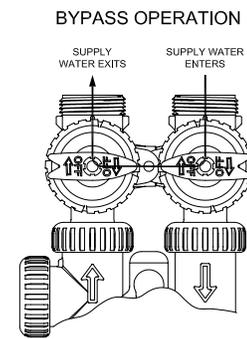

figure 2
2. Bypass Position: The inlet and outlet handles point to the center of the bypass. The control valve is isolated from the water pressure contained in the building plumbing system. Untreated water is supplied to the building plumbing system. (see figure 2)
As noted on page 5 General Installation Instructions, allow lighter weight mineral such as Carbon and Filter Ag to soak in water prior to start-up; recommend minimum 12 hours up to 24 hours for best results. Do not plug the transformer into the receptacle yet. Rotate the bypass handles to the **BYPASS** position (see figure 2 on page 4). Turn on main water supply. Open a cold water faucet. This will clear the line of any debris that may be in the line. Let water run at faucet for a couple minutes, or until clear. Turn off faucet. Now plug the transformer into a 120 volt receptacle (be certain the receptacle is uninterrupted). Within 5 seconds the control display and buttons will illuminate and the time of day screen will appear.
As noted on page 5 General Installation Instructions, allow lighter weight mineral such as Carbon to soak in water prior to start-up; recommend minimum 12 hours up to 24 hours for best results. **DO NOT SOAK KATALOX-LIGHT. Do not plug the transformer into the receptacle yet.** Rotate the bypass handles to the **BYPASS** position (see figure 2 on page 4). Turn on main water supply. Open a cold water faucet. This will clear the line of any debris that may be in the line. Let water run at faucet for a couple minutes, or until clear. Turn off faucet. Now plug the transformer into a 120 volt receptacle (be certain the receptacle is uninterrupted). Within 5 seconds the control display and buttons will illuminate and the time of day screen will appear.
As noted on page 5 General Installation Instructions, **DO NOT SOAK KATALOX-LIGHT in water prior to start-up. Do not plug the transformers into the receptacles yet.** Rotate the bypass handles to the **BYPASS** position (see figure 2 on page 4). Turn on main water supply. Open a cold water faucet. This will clear the line of any debris that may be in the line. Let water run at faucet for a couple minutes, or until clear. Turn off faucet. Now plug the filter control valve transformer into a 120 volt receptacle (be certain the receptacle is uninterrupted). Within 5 seconds the control display and buttons will illuminate and the time of day screen will appear. Also, now plug the transformer supplied with the Enhanced Oxidation Generator (EOG) into a 120V uninterrupted receptacle and the male DC plug end into the female DC jack located at the back of the EOG.